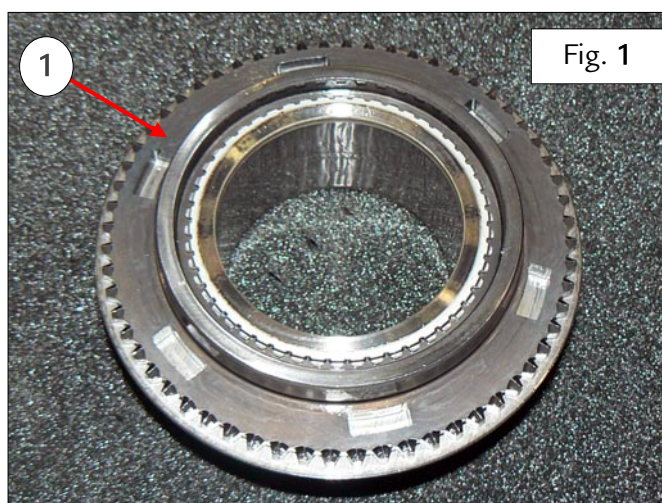

Fig. 1
- Place the gear (1) (the 5th speed gear is shown in this example) on a work surface, with the side shown in the figure side facing upwards – Fig. 1.
The gears removed in the procedure to replace the speed sensor are illustrated in the image above. The diameters of the gears are indicated as follows to facilitate identification of the gears themselves and reassembly – Fig. 1.